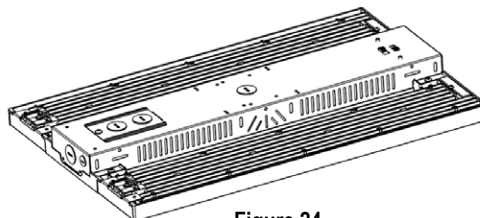

Figure 24
1. Fix the transformer mounting kit to the fixture and tighten the screws (see Fig. 24 & 25)